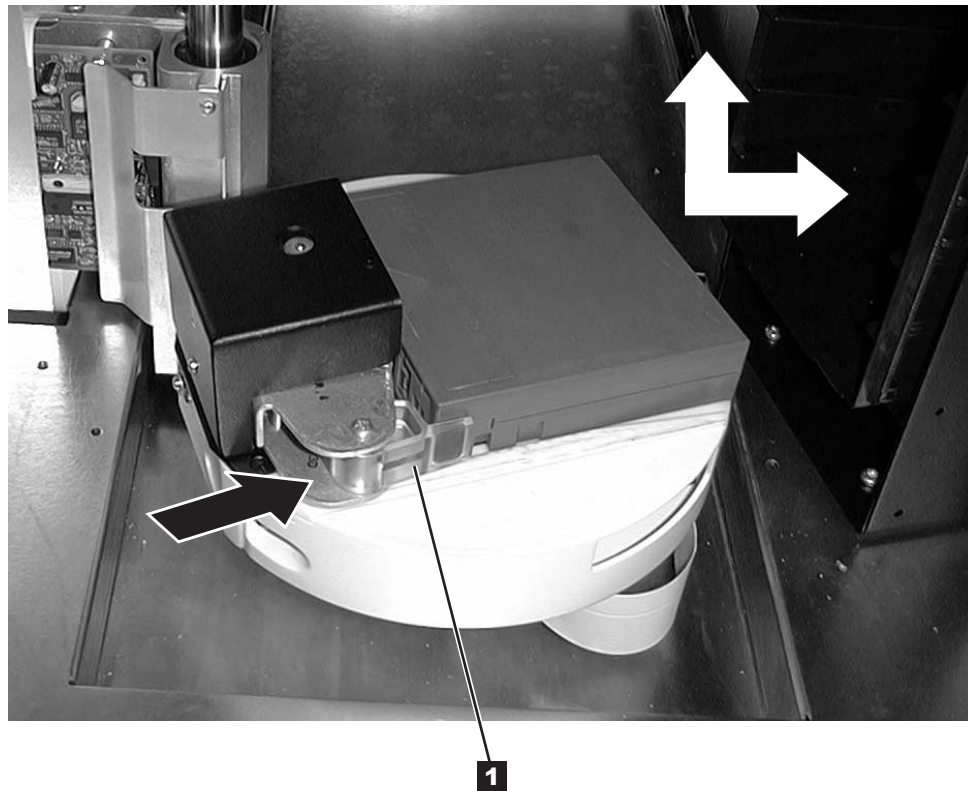

Figure 8-1. Cartridge Removal from Picker Assembly
See Figure 8-1.
4. The grip fingers are spring-loaded. Open them by applying pressure to the back of one of the fingers **1** as seen in Figure 8-1. Remove the cartridge when the fingers are open.